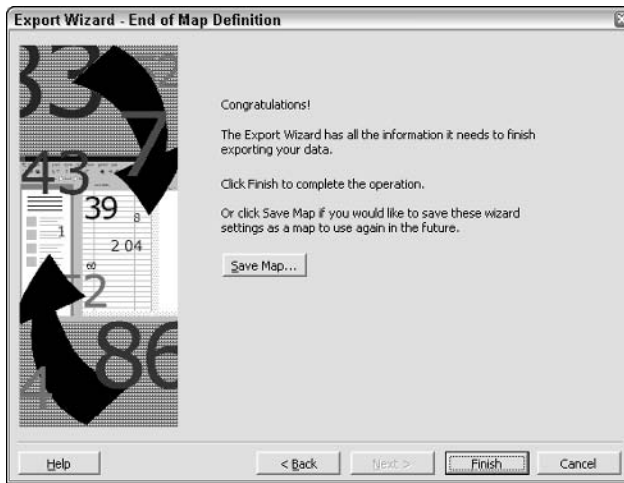
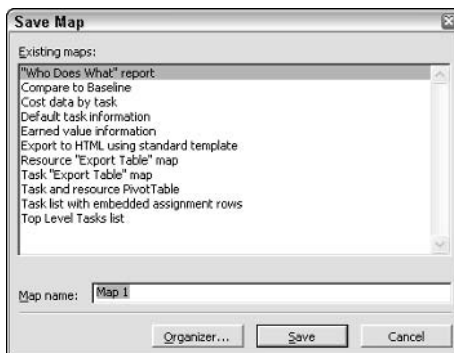

Figure 26-4: In the final dialog box of the Export Wizard, choose whether to save the map that you've defined.
Figure 26-5: If you decide to save the map, provide a name for it in the Save Map dialog box, which displays a list of all existing maps.
11. After you finish defining your map, you see the final box of the Export Wizard, as shown in Figure 26-4. If you elect to save your map by clicking the Save Map button, Project displays the Save Map dialog box, as shown in Figure 26-5. Provide a name for the new map in the Map name text box.